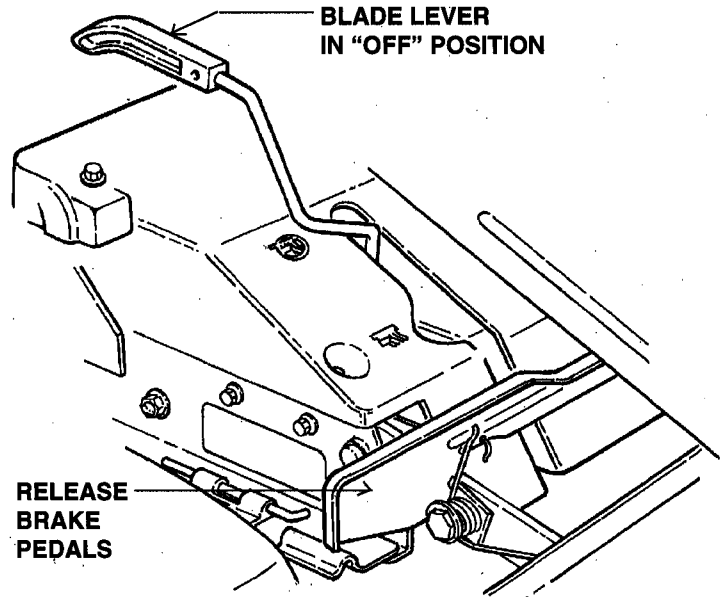

FIGURE 2.13
1. Stop mower blade by removing feet from blade pedals or moving blade lever rearward to the "OFF" position. See Figure 2.13.